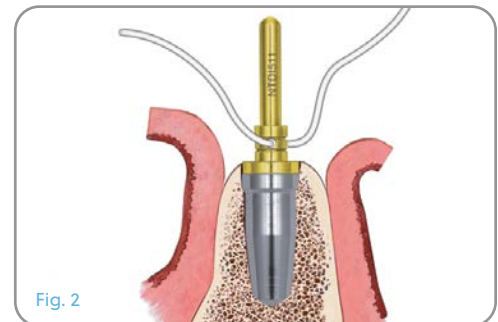

Fig. 2
**Step 2:** Thread a suture through the NTDI hole to prevent accidental swallowing. Verify the NTDI platform position in reference to the crest of the bone. This also verifies the depth of the osteotomy that has been created. The NTDI platform should be at the level you desire the implant platform to attain. If the NTDI platform is too high versus the desired position, then re-drilling to the appropriate depth is required. If the NTDI platform is too deep versus the desired position, this indicates some degree of osteotomy over preparation has taken place. To ensure proper engagement of the implant, it must be seated to the depth demonstrated by the NTDI. A longer implant can be considered. The clinician may consider verifying the position of the NTDI with a radiograph [Fig. 2].